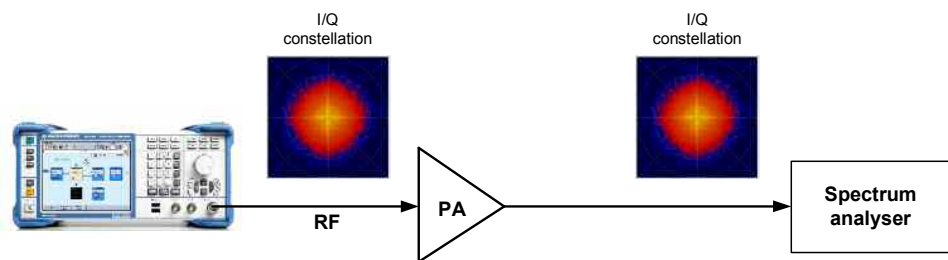

Fig. 20: Setup for testing a conventional linear power amplifier.
Mobile communications signals such as WCDMA signals or OFDM signals exhibit crest factors in the order of 10 dB, i.e. the instantaneous signal amplitude varies significantly over time. The power amplifier (PA) used must therefore be linear over this power range. The strong linearity requirements can, however, only be fulfilled at the expense of power conversion efficiency. Fig. 20 shows a typical setup for testing a linear PA. The SMBV generates the required test signal, e.g. a 3GPP signal with a crest factor of around 10 dB.